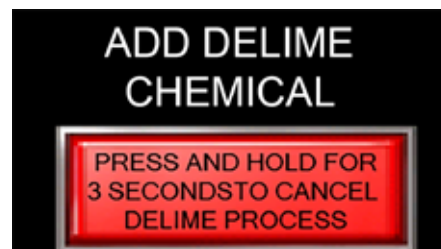

Fig. 60 - Add delime chemical
7. "ADD DELIME CHEMICAL" appears, (Fig. 60). Open the doors and add the deliming chemical in accordance with the manufacturer's instructions.